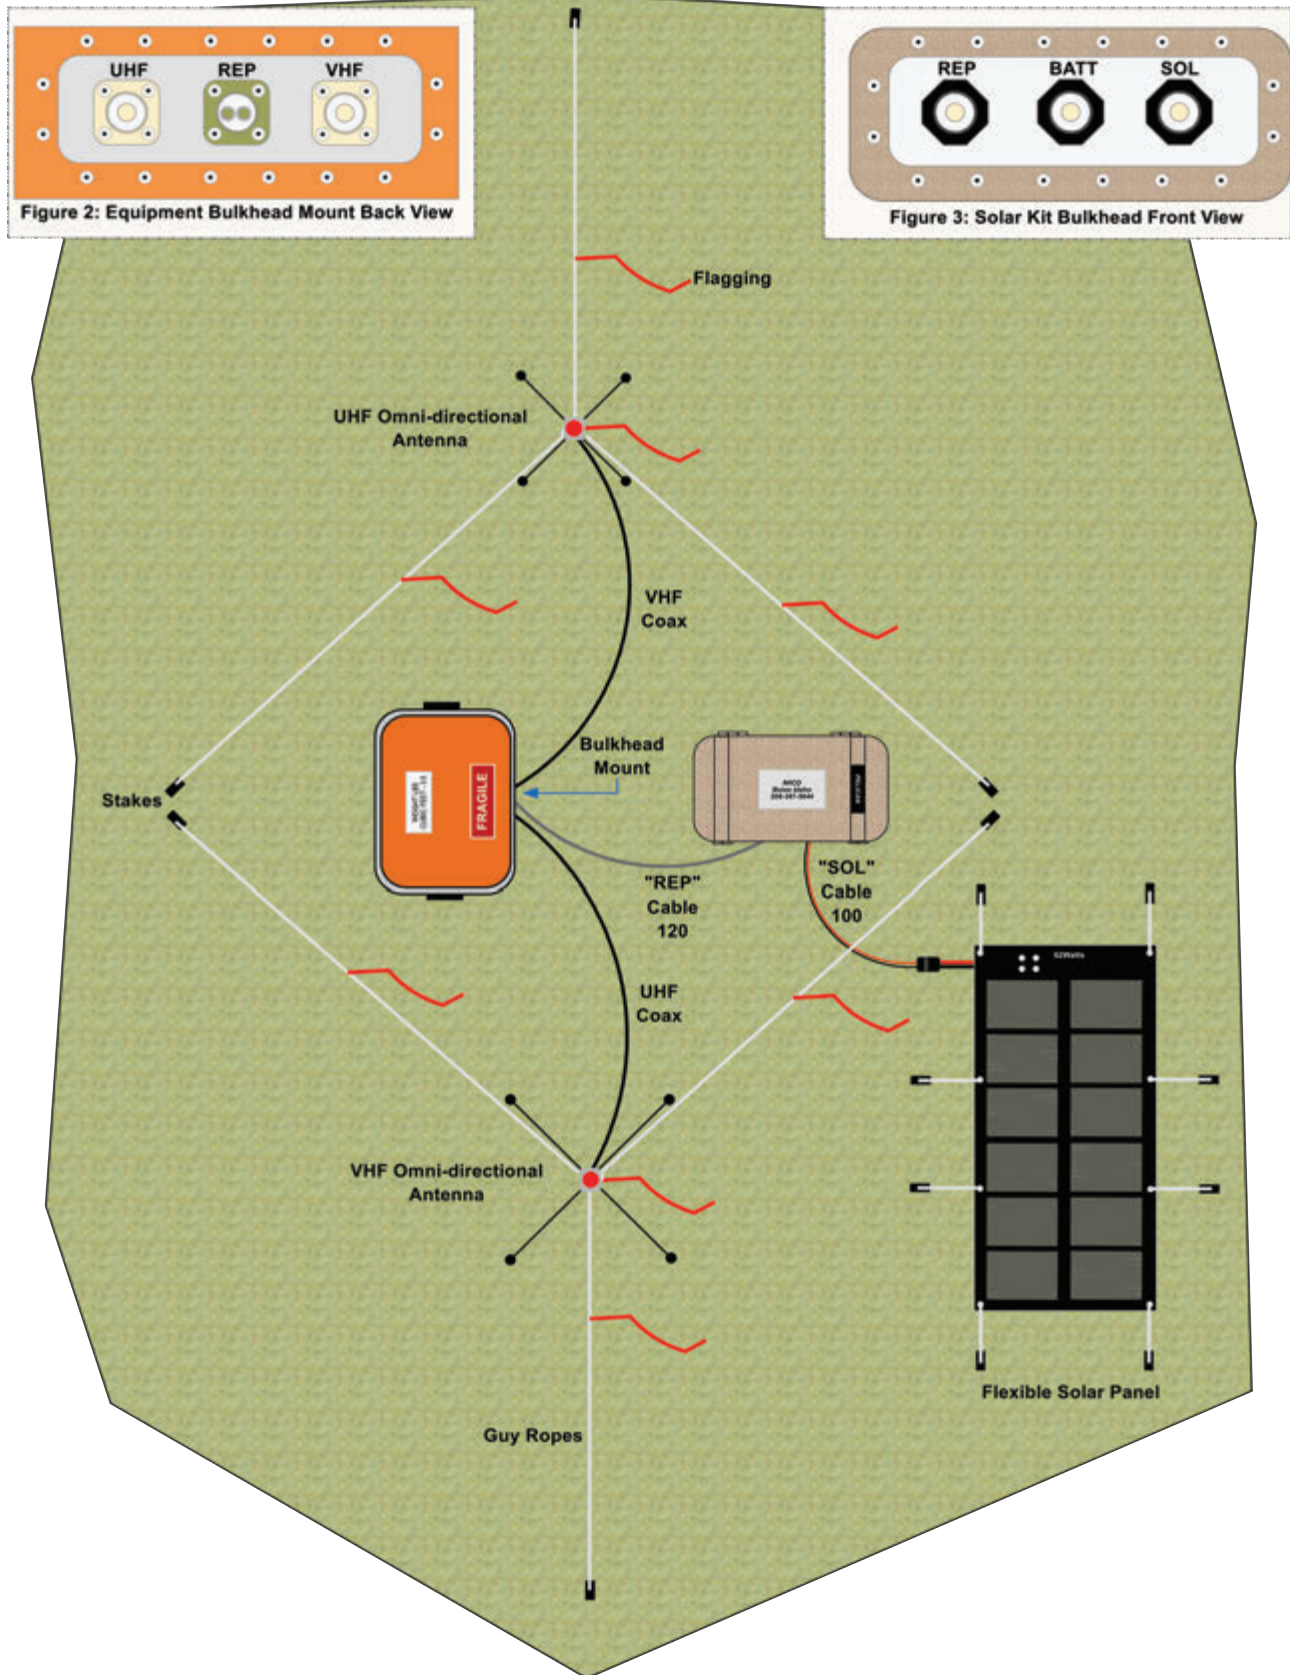

Figure 1: Solar Panel Installation (Overhead View)
1. **Antenna Installation** (See Figure 1)
2. **Coaxial Cable** (See Figure 1)